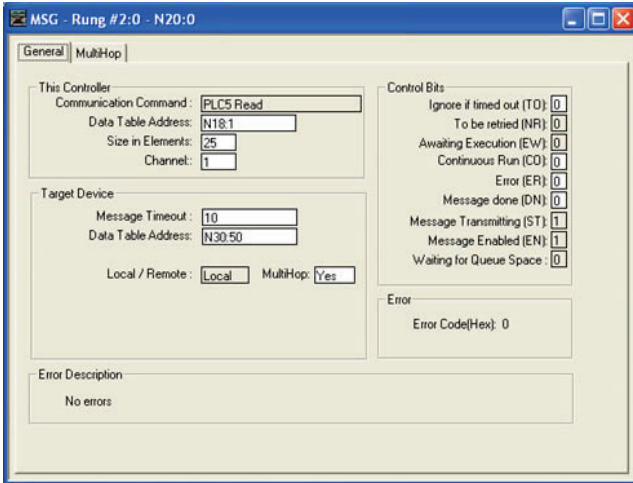

Figure 81: MSG Configuration, "General" Tab
- b) Upon hitting the <ENTER> key while in the “Control Block” entry box, the MSG Properties dialog box should appear (or it can be opened by clicking on the “Setup Screen” button at the bottom of the MSG instruction). Refer to Figure 81.